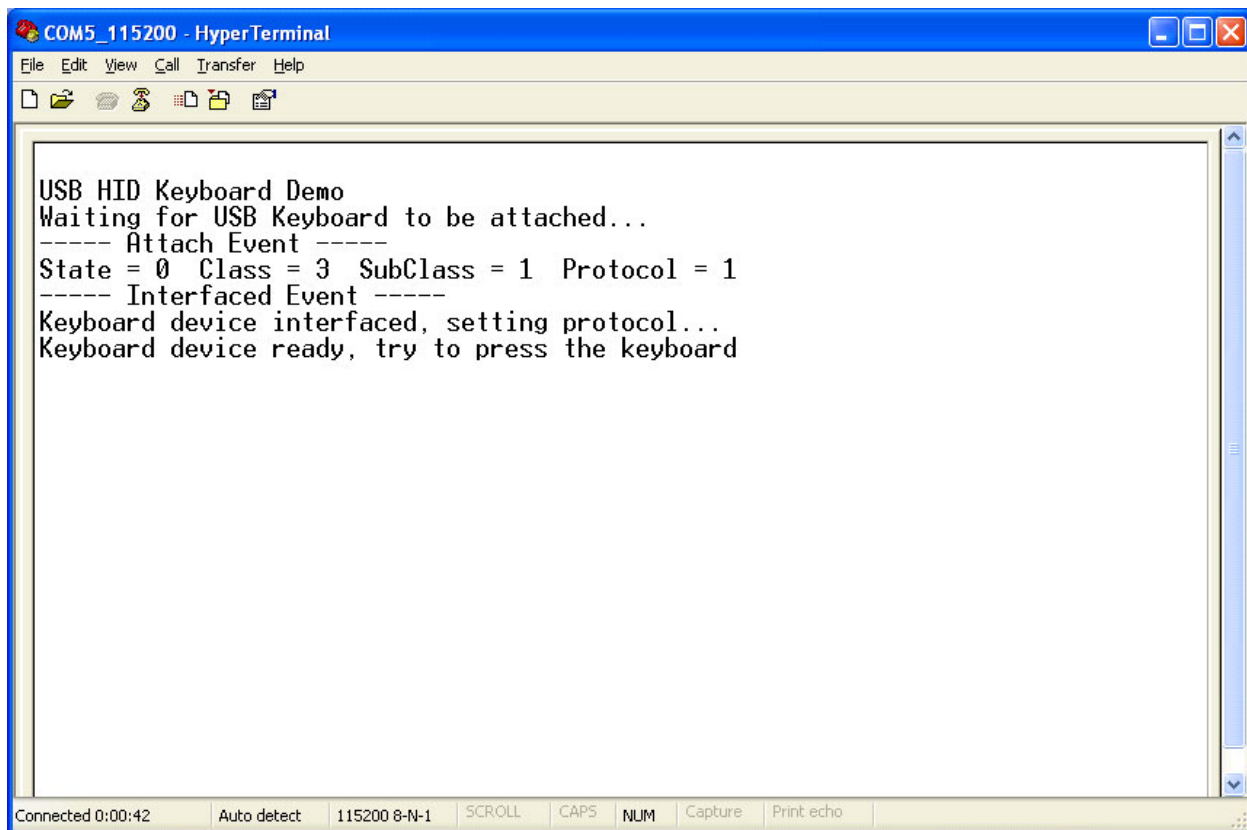

Figure B-7. Keyboard attached
3. Plug-in the Keyboard. The Hyperterminal displays a message as shown in Figure B-7: